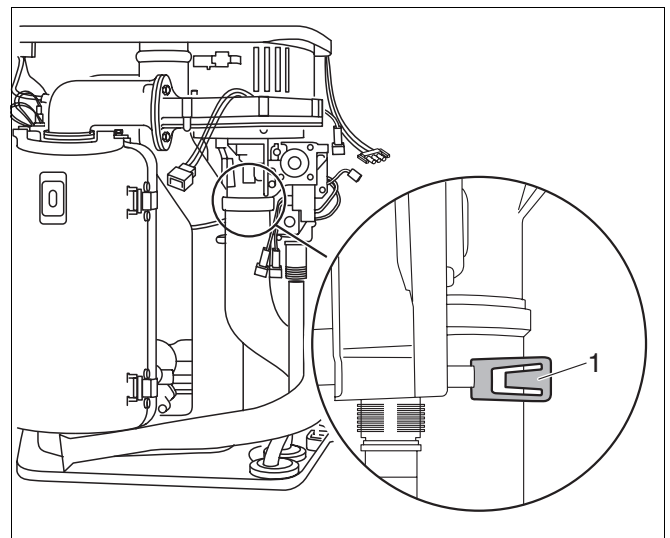

Fig. 59 Replacing the fan on the 600 Series: remove the air suction tube
- Push the safety plate out of the way (fig. 59, item 1).